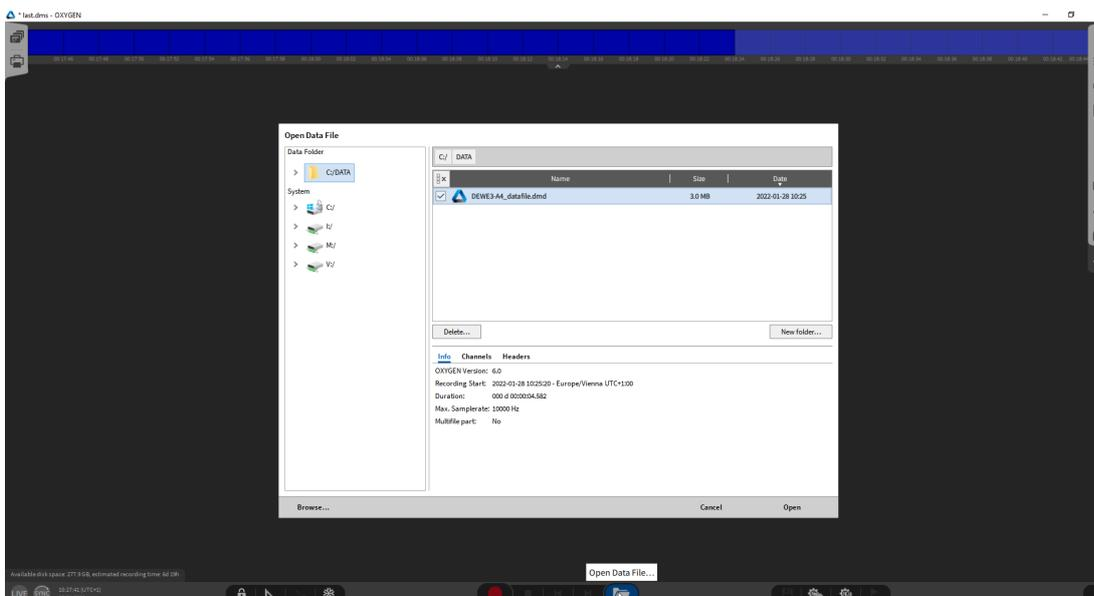

Fig. 28: Opening data file
1. Click on the file button, and select the corresponding file (see Fig. 28).